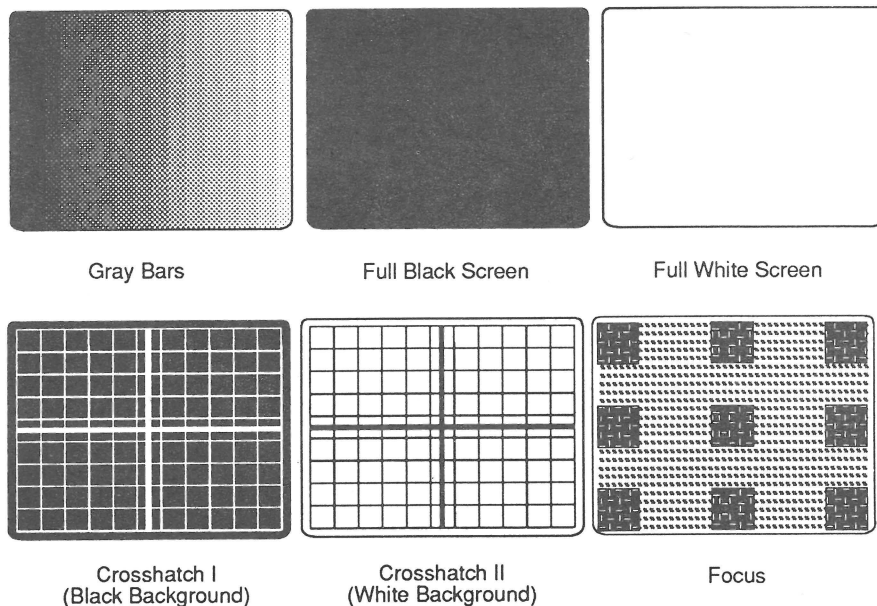

FIGURE 5
14. *MacTest II/Ix* displays the test patterns listed below and shown in Figure 5.